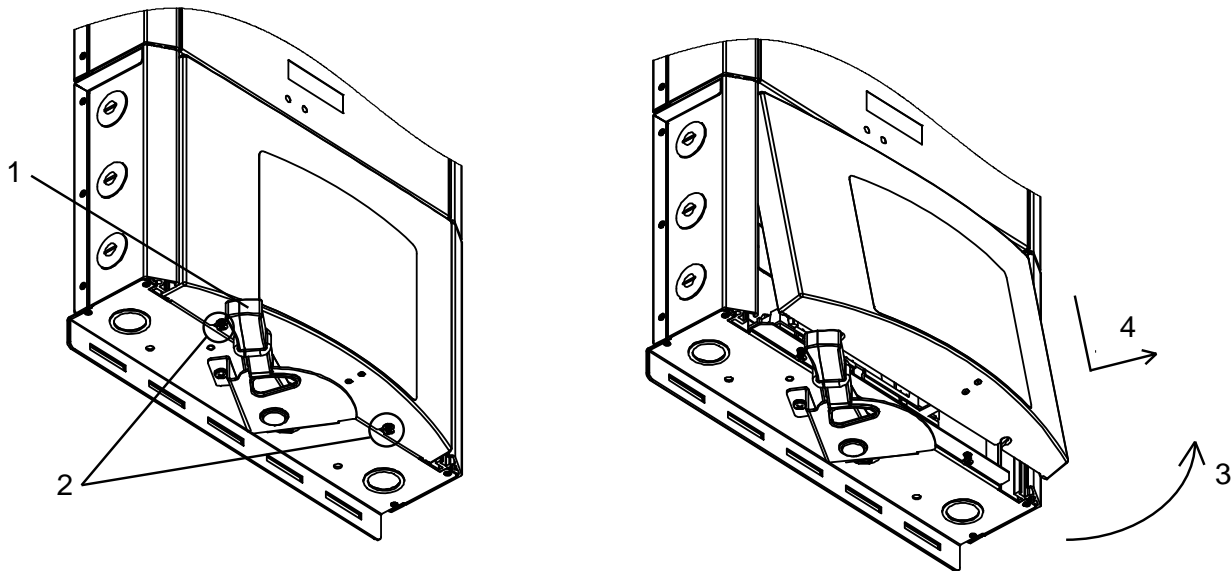

Figure 3-4 Removing the wiring box cover
**To remove the wiring box cover (see Figure 3-4):**